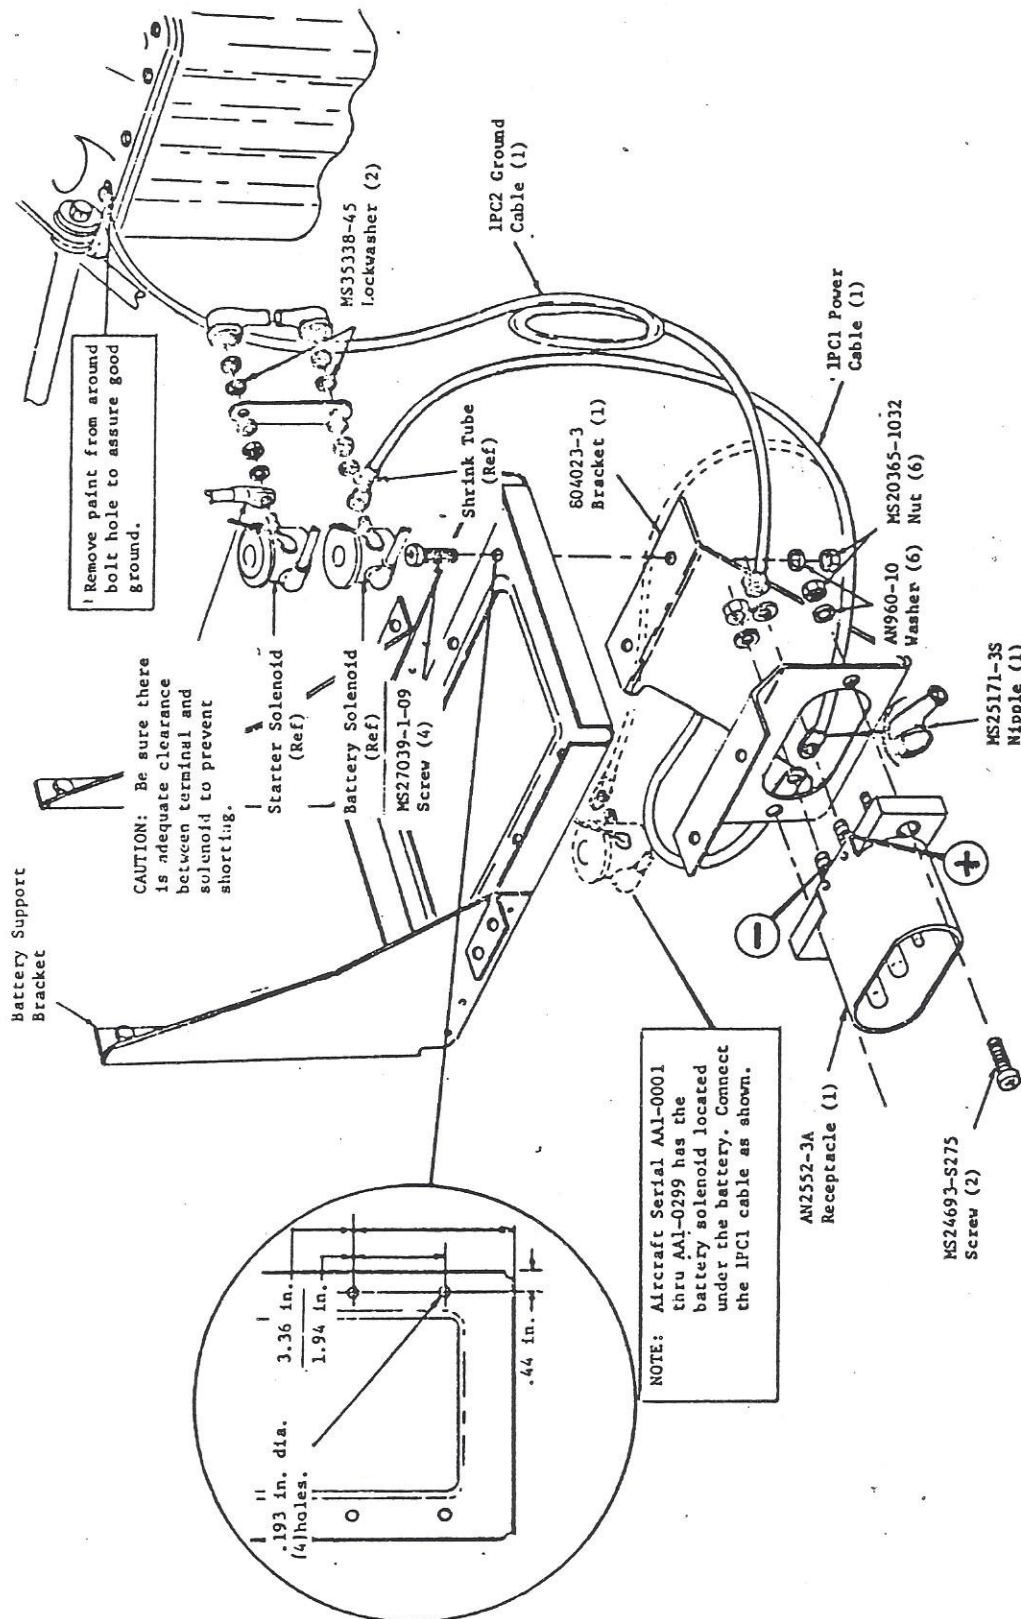

Figure 1. Auxiliary Power Receptacle Installation
INSTALLATION INSTRUCTIONS (Refer to Figure 1 and 2)
- A. Auxiliary Power Receptacle (Figure 1)
3. Refer to Figure 1; locate and drill four (4) .193 dia. holes in the battery support bracket. Position in bracket (804023-3) and attach with four (4) screws (MS27029-1-09), four (4) washers (AN960-10) and four (4) nuts (MS20365-1032).
4. Position the receptacle (AN2552-3A) on the bracket (804023-3) and install two (2) screws (MS24693-S275), two (2) washers (AN960-10) and two (2) nuts (MS20365-1032).
5. Refer to Figure 1 and remove the nipples, nuts, washers and jumper strip from the battery solenoid and starter solenoid. Remove additional nut and washer from the battery solenoid and attach the end of the power cable, that has the shrink tube installed, to the battery solenoid terminal and secure with a lockwasher and nut. Slide the nipple (MS25171-3S) over the opposite end of power cable (1PC1), and connect it to the positive (+) terminal of the receptacle (AN2552-3A)
6. Install a lockwasher against the nut on each solenoid terminal, then install the jumper strip (nipples attached), two (2) lockwashers (MS35338-45) and two (2) nuts as shown on Figure 1.